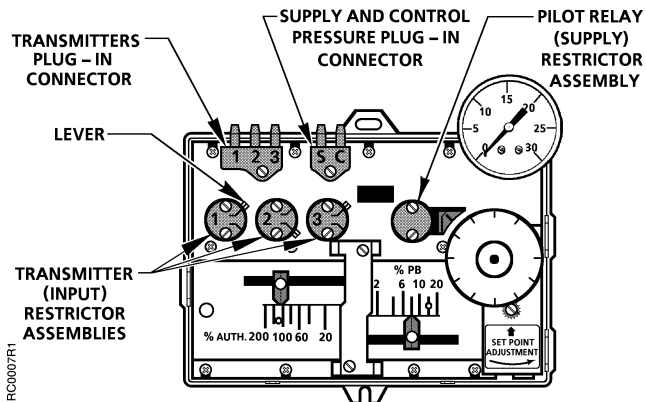

Figure 1. RC 195 Receiver-Controller.
2. Using a small, flat-blade screwdriver, remove the two screws on the transmitter restrictor assembly and lift off the cover. See Figure 1.
1. Using a small, flat-blade screwdriver, remove the two screws on the pilot relay restrictor assembly and lift off the cover. See Figure 1.